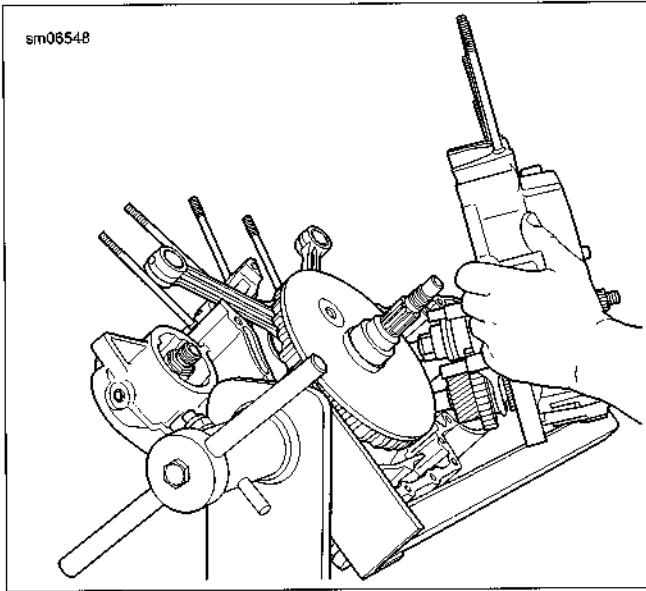

Figure 3-82. Separating Crankcase Halves
6. See Figure 3-82. Tap crankcase gently with rawhide mallet to loosen and separate the halves. Remove left crankcase assembly with transmission.